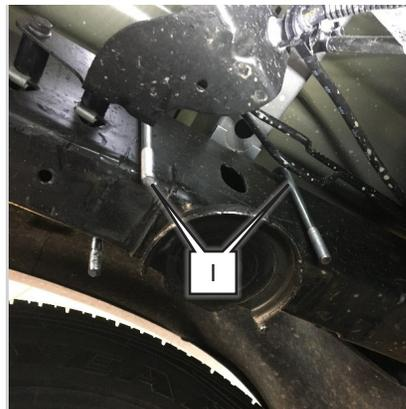

fig. D.18
1. Place U-bolts (I) over the frame as pictured on both sides of the vehicle (Fig. D.18).